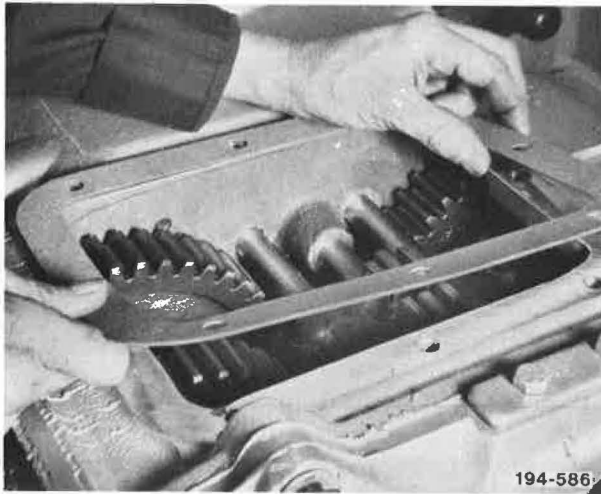

Figure 5-994. Installing Gasket
28. Install front case top cover gasket. See Figure 5-994.